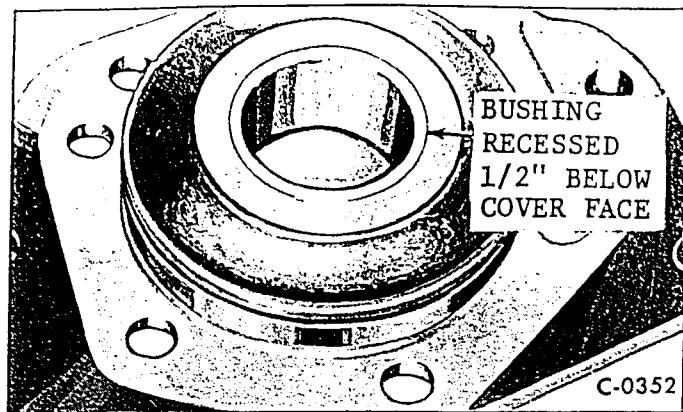

Figure 28 - Bushing Installed in Cover
1. If bushing was removed from cover, use a press and a straight line pushing action to press bushing into cover until face of bushing is recessed 1/2-inch below cover face (fig. 28).